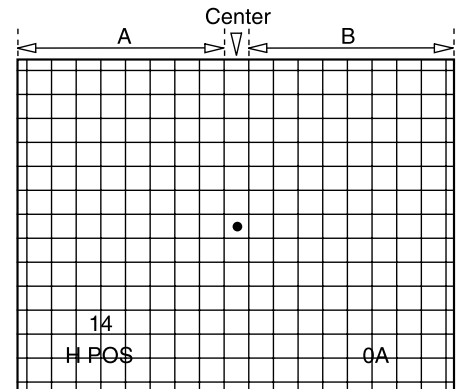

Fig. 1-1
- Use the volume keys on the jig remote controller to adjust the dot mark in the centre of crosshatch screen to the exact centering position by allocating an equal number of squares on the left and right side of the dot.  $A=B$  (Fig. 1-1)